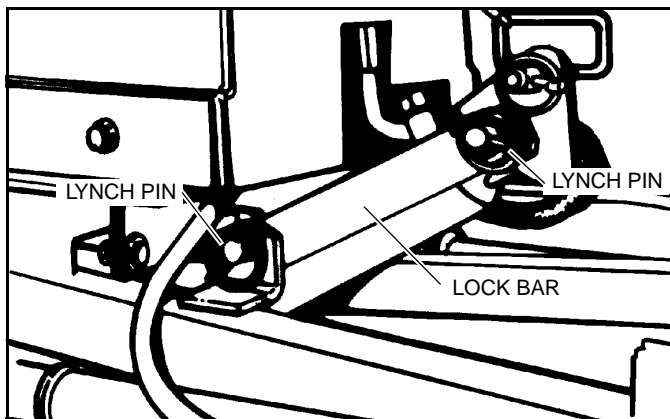

Figure 1-4
4. Insert the pin of the Lock Bar through the hole in the Lock Bracket on the left side of the A-Frame. (See Figure 1-4).